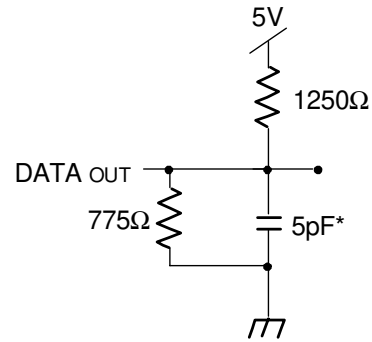

Figure 2. Output Test Load
1. Transition is measured 0mV from Low or High-impedance voltage Output Test Load (Figure 2).
- Transition is measured 0mV from Low or High-impedance voltage with Output Test Load (Figure 2). This parameter is guaranteed by device characterization but is not production tested.
7. This parameter is determined to be device characterization, but is not production tested. Transition is measured 0mV from steady state with the Output Test Load (Figure 2).